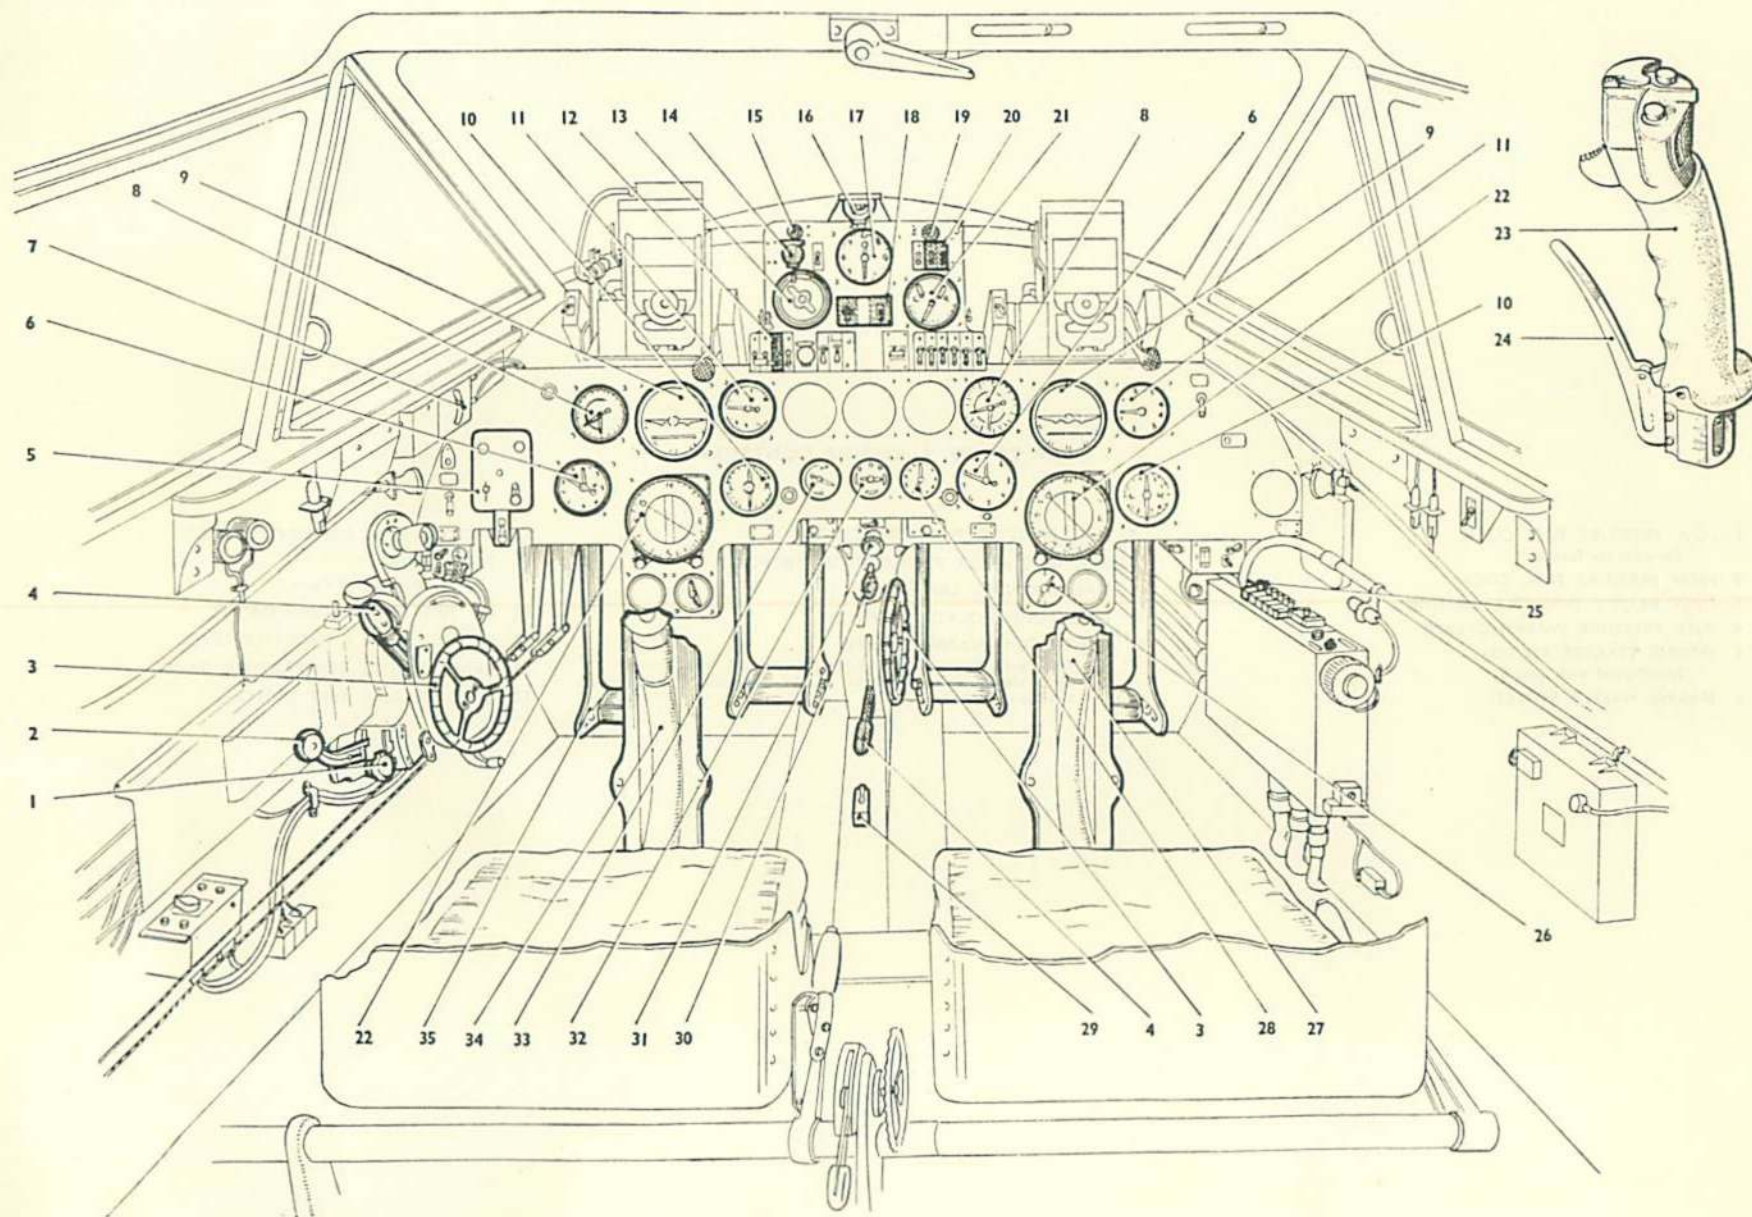

Fig. 1. Flying controls
5. The quadrant of the flap selector lever, fig. 1, is marked FLAPS UP—NEUTRAL—DOWN. Any flap position up to 80 deg. can be obtained by returning the selector lever to the NEUTRAL position when the desired angle is shown on the flap position indicator. After selecting flaps DOWN (80 deg.) the selector lever must be returned to the NEUTRAL or locked position on completion of the flap movement. The lever should, however, be left in the UP position for flaps UP.
KEY TO FIG. 1 (FLYING CONTROLS)